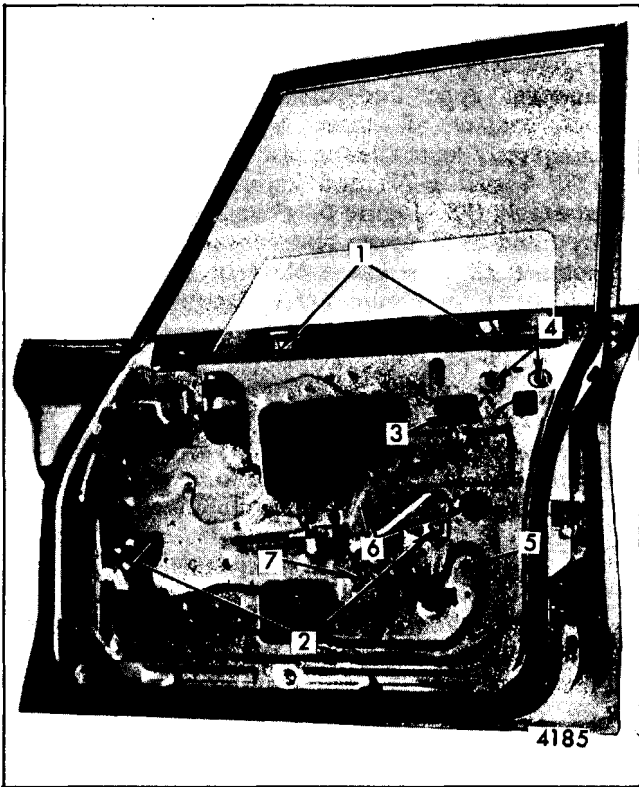

Fig. 6-76-Window Removal and Adjustment - "B" Closed Styles
2. Loosen window stabilizer strips ("1", Figure 6-76).
3. Operate window to a three-quarter-down position and remove window lower sash channel cam to glass attaching stud nuts ("2", Figure 6-76). Tilt
1. The rear guide is adjustable in and out ("3" Figure 6-76) and fore and aft ("4" Figure 6-76) to relieve a binding door glass.
2. The door window inner panel cam ("6", Figure 6-76) is adjustable at the front to correct a rotated (cocked) window.
3. The window down-travel is controlled by the position of the down-travel bumper support ("7" Figure 6-76).